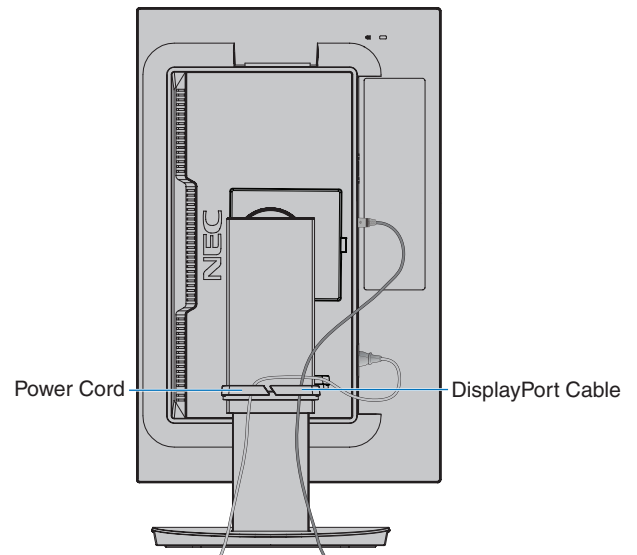

**Figure 4**
4. Place the cable holder onto the stand (**Figure 4**).